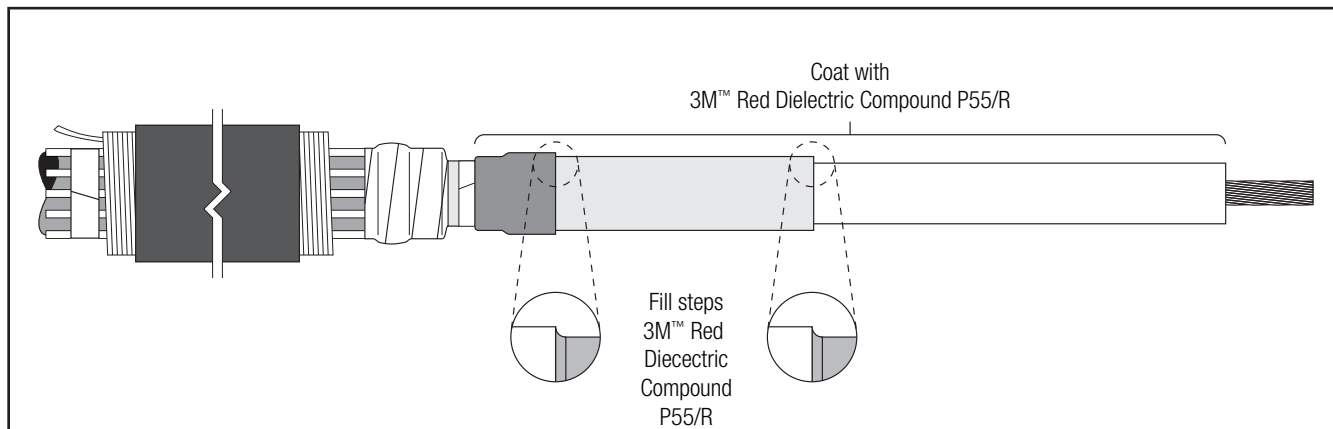

Figure 9
3.5 Apply 2 tubes 3M™ Red Dielectric Compound P55/R to the exposed insulation and stress control adapter. Fill the top edge of the stress control tube with the 3M™ Red Dielectric Compound P55/R. (Figure 9)